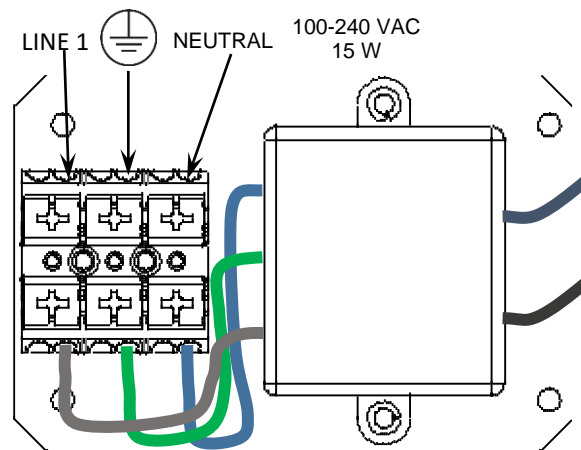

Figure 2-5. Multi-Zone AC Input Power Connections
Locate the AC Input Terminal Block and Ground Stud on the inside of the monitor. Prepare the wiring by stripping the insulation back 3/8" (10 mm). Insert the incoming AC power neutral (white), earth ground, and live (black) wires to the Neutral (N) earth ground, and LINE 1 (L1) terminal locations as shown in the Figure 2.5. Use a screwdriver to depress the Terminal Block contact and fully insert the stripped wire end. The Terminal Block includes two positions for each wire, which may be used to connect other AC powered devices; typical AC external alarm relay 1 wiring shown in Figure 2.14.